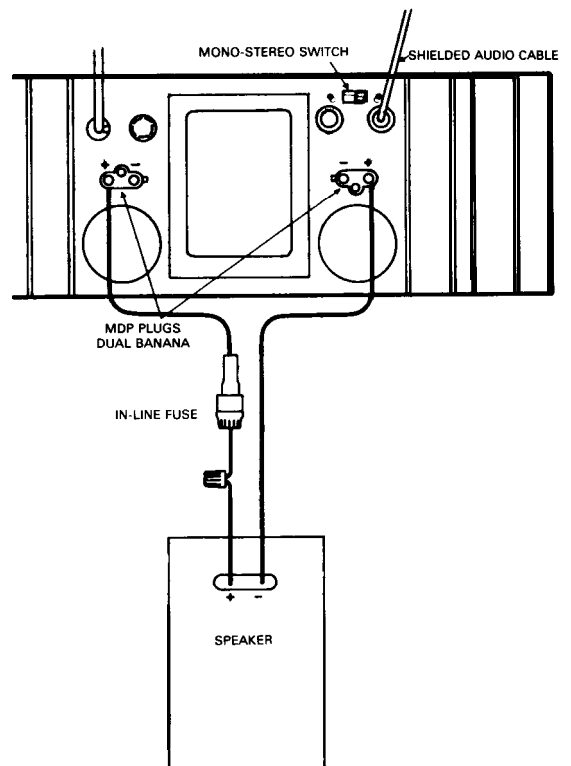

FIG. 2-7
2. Connect output lines as per the following drawing, Figure 2-7. The output from the DC-300A in Mono is BALANCED and is isolated from the chassis, and from the input grounds to the DC-300A.